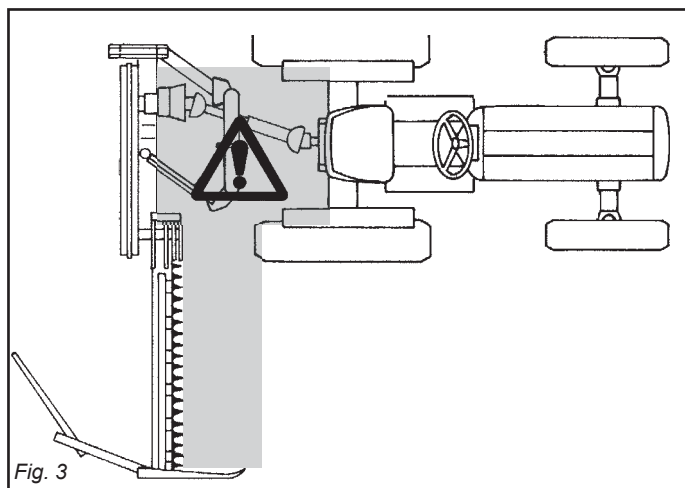

Fig. 3
- 29) It is absolutely forbidden to stand between the tractor and the implement (Fig. 3) when the engine is running and the cardan shaft is engaged without having first engaged the hand brake and placed a block or stone under the wheels to prevent them from moving.
- 33) It is absolutely forbidden to stand between the tractor and the implement when manoeuvring the lift control from the outside (Fig. 3).